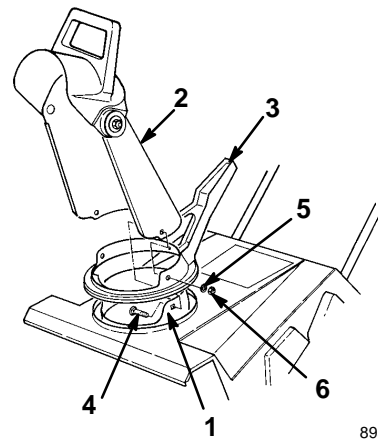

Figure 3
1. Place the chute handle over the chute ring (Fig. 3).
2. Insert the discharge chute between the chute ring and the chute handle and align the holes (Fig. 3).
- Secure the back of the chute and the handle to the center hole in the chute ring with a carriage bolt, a washer, and a locknut. Position the washer and the locknut on the outside of the chute (Fig. 3).